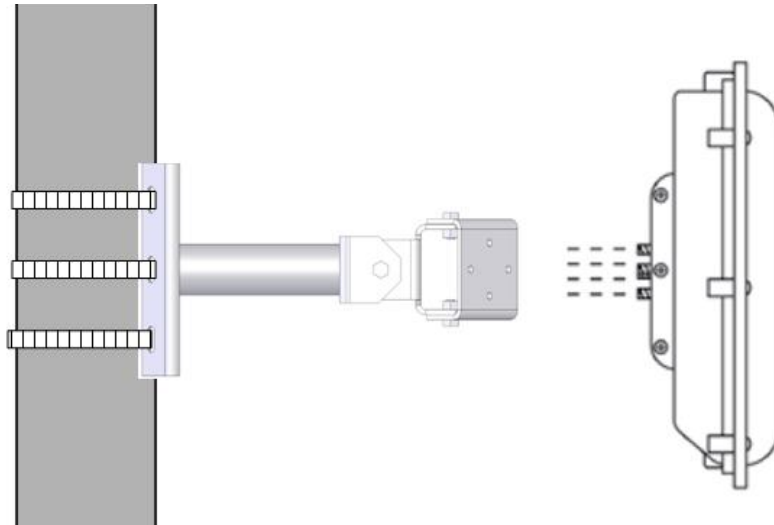

Figure 1.2 Attaching the Sensor to the Mount Bracket
3. Thread on the nuts and tighten (see Figure 1.2)
Usually the front-edge of the sensor’s beam is aligned to provide coverage beyond the stop bar. This will allow placement of detection zones in beyond the stop bar (not all vehicles stop behind the line), and it will also provide the sensor with a view of vehicles exiting queues. If the sensor pole is upstream of the stop bar as in Figure 1.2, it is recommended to pan in the direction of the stop bar.